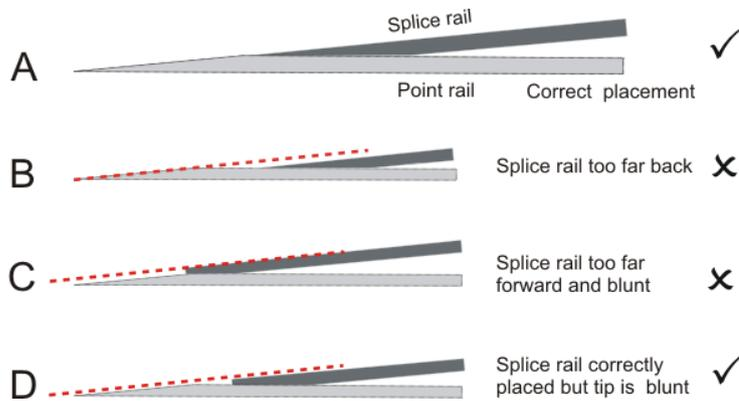

Fig 15 Crossing vee correct and incorrect alignments
When soldering crossing vees it is very important to position the two rails correctly. In fig 15 the top vee (A) is ideally formed with the running edge of the splice rail leading smoothly into the taper on the point rail. In B and C there will be a jolt when a wheel travels over them. The example C is particularly likely to occur if the splice rail is not filed to a fine enough point. In both these cases you may also have trouble getting the vee to fit correctly into the crossing assembly jig. Example D is not perfect but is very likely to occur as it is difficult to file a taper to a very fine point. It is unlikely to cause problems as the wheel path is correctly aligned.
1. Insert the vee and locate it properly. If it will not fit into the jig this may be because the splice rail has been soldered too close to the nose or too far away. The splice rail can be too close particularly if it does not taper to a feather end. See fig 15 above. A serious excess of solder can also prevent the vee fitting properly.